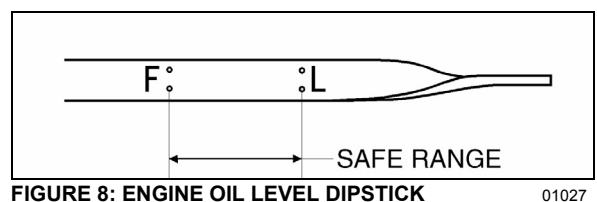

FIGURE 8: ENGINE OIL LEVEL DIPSTICK 01027
Check the oil level daily with the engine stopped. If the engine has just been stopped and is warm, wait at least 10 minutes to allow the oil to drain back to the oil pan before checking. Wipe the dipstick clean then check oil level. The level should always be within the safe range on the dipstick (Fig. 8). Add the proper grade of oil to maintain the correct level on the dipstick. All diesel engines are designed to consume some oil, so a periodic addition of oil is normal.
8. Remove the engine-oil filler cap and pour oil in the engine until it reaches the "FULL" mark on the dipstick (Fig. 8).
10. Add oil as required to bring the level within the safe range on the dipstick (Fig. 8).